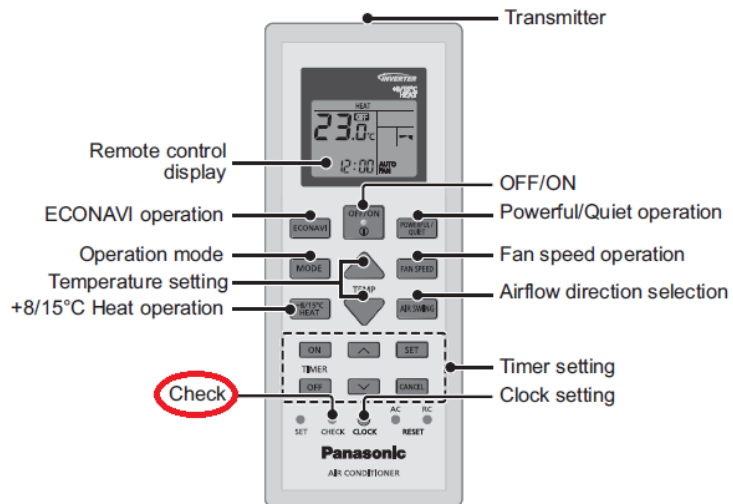

Figure 2
Step 2: Press the “Check” button (refer Figure 2) on the remote control once and the signal from the remote control will activate the HEATING only mode.